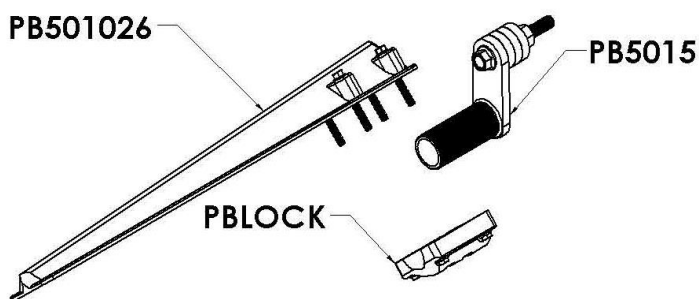

Figure 10
- A. Use four 5/16" x 3" bolts to attach the bracket (part number PB501026) and the backing block (part number PBLOCK) to the steel swivel (part number PB5015). As shown in Figure 10. **Make sure the pipe end of the PB5015 is fully engaged into bracket.**